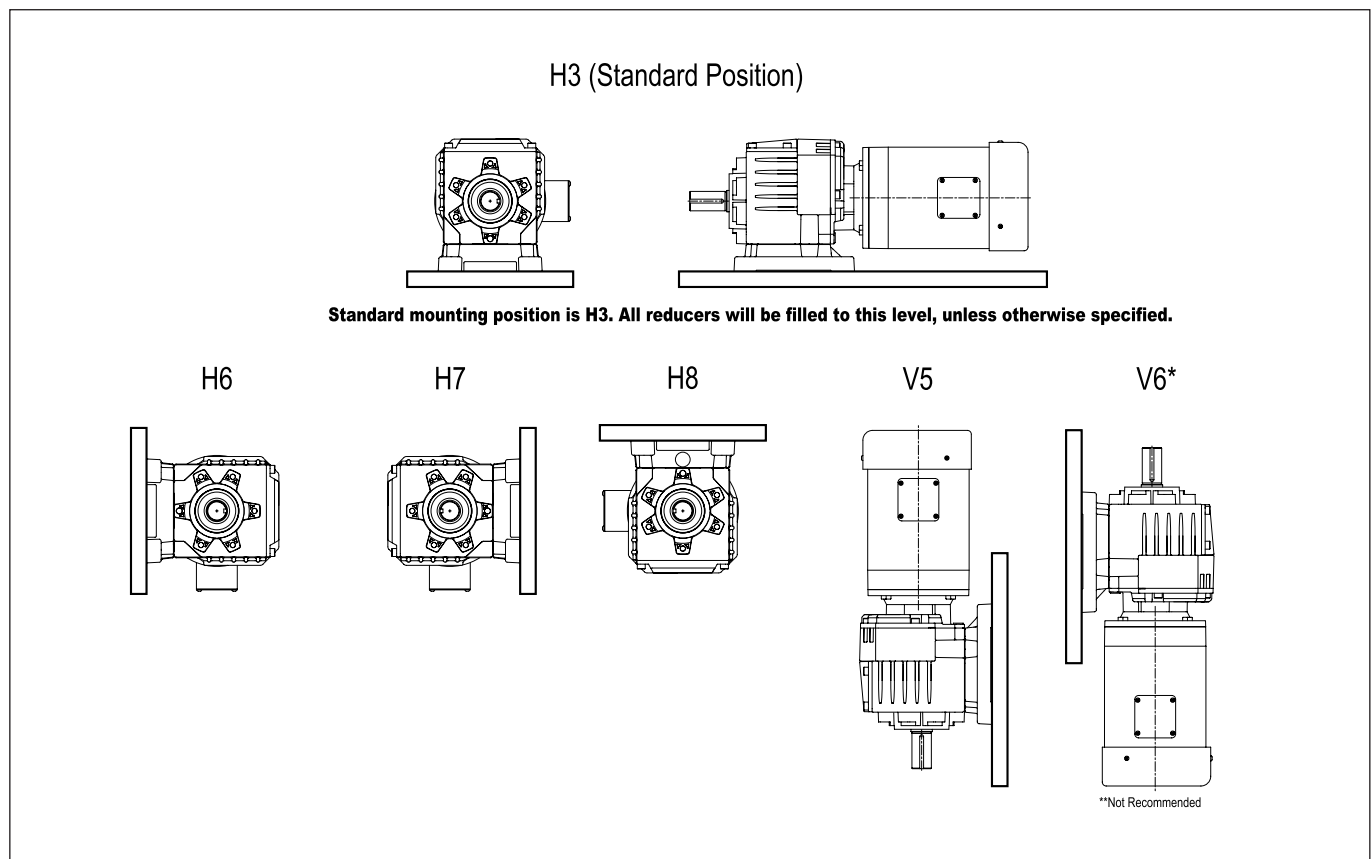

Figure 1 - Reducer Mounting Positions
2. LeCentric™ reducers are filled with proper amount of oil from LEESON. Oil quantity is based on mounting position, as indicated on reducer nameplate. Unless otherwise indicated with order, all reducers are filled to level indicated for position H3. If position other than the one indicated on nameplate is required, refer to Figure 1 for alternate mounting positions and Table 1 for oil quantities.
CAUTION Do not operate the reducer without making sure it contains the correct amount of oil. Confirm that mounting position on nameplate matches application requirement per Figure 1. Do not overfill or underfill with oil, or injury to personnel, reducer or other equipment may result.
All standard reducers ordered from the factory are filled with Mobilgear® SHC 320 synthetic oil to operate within a -25 to +113°F ambient temperature range. Lubrication quantities are specified in Table 1 for various mounting positions. Prior to startup, verify that the mounting position on nameplate matches required position (see Fig. 1). LeCentric™ reducers are filled to proper amount of oil based on mounting position printed on nameplate. **All LeCentric™ Gear Reducers will be filled with oil for position “H3” unless otherwise specified.** If the ambient temperature will be outside the range for the lubricant installed at the factory, drain and refill the reducer with the proper viscosity lubricant prior to use. Consult the factory for alternate lubricants.
LeCentric™ reducers are lubed-for-life and do not require regularly scheduled oil changes/checks. However, if the reducer is used in a severe environment, it is recommended that the oil is checked or changed every 6000 hrs. or after 2 years of operation. If the oil level is low, (refer to Figure 1 for mounting positions) add proper lubrication through the filler plug.